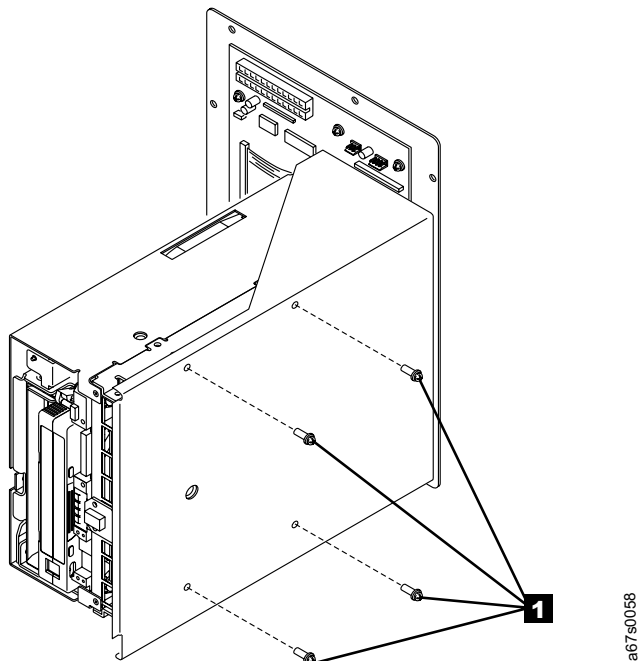

Figure 29. Removing the drive assembly sled from the tape drive
- a. Using a Phillips screwdriver, remove the four screws ( **1** in Figure 29) that secure the drive assembly sled ( **2** ) to the drive ( **3** ). Set the screws aside.